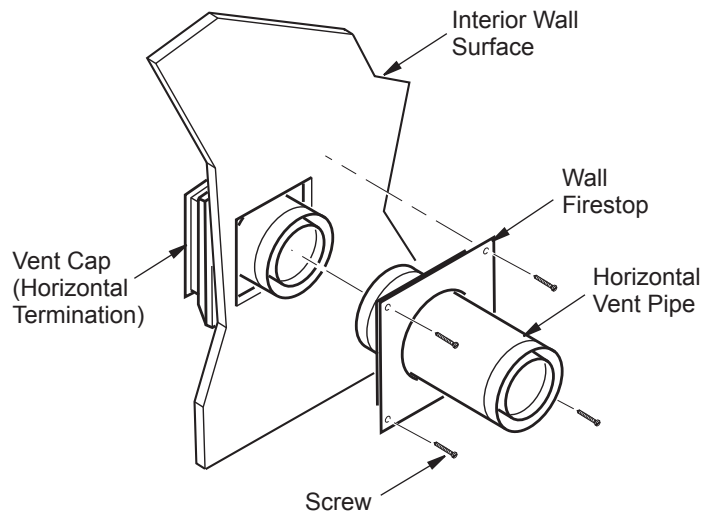
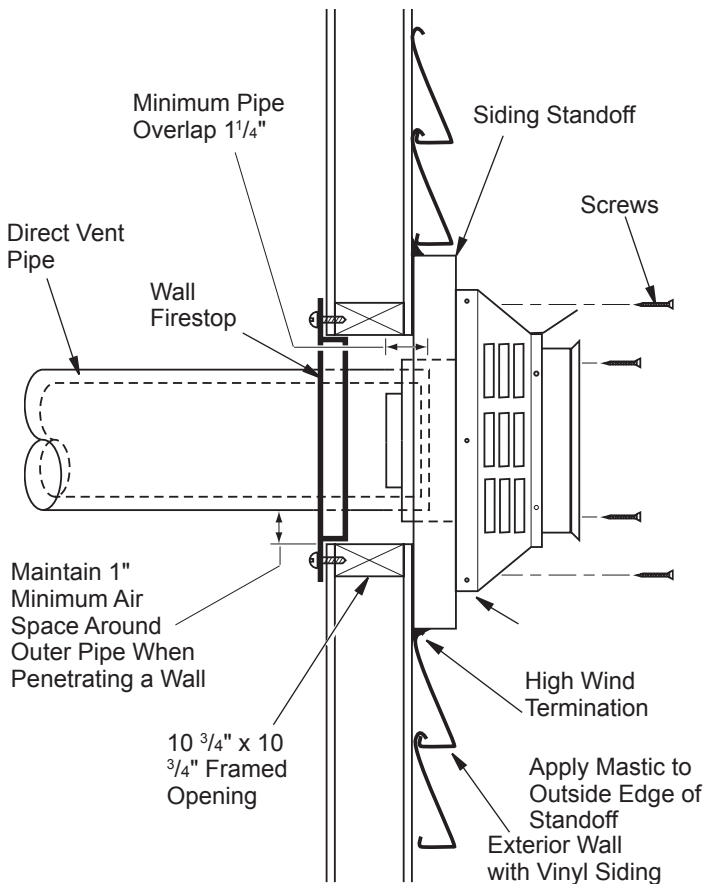

Figure 12 - Connecting Vent Cap with Horizontal Vent Pipe
Figure 13 - Typical Horizontal Termination Cap Mounting with Additional Siding Standoff Installed
- 7. Combustible Exterior Wall Only:** Slide the wall firestop over the vent pipe before connecting horizontal run to vent cap (see Figure 12).
- Carefully move fireplace, with vent assembly attached, toward wall and insert vent pipe into horizontal termination. The pipe overlap should be a minimum of 1 1/4" (see Figure 13, page 10).
- 9. Combustible Exterior Wall Only:** Slide wall firestop against interior wall surface and attach with screws provided (see Figure 12). See Figure 13, page 10 for horizontal termination details.